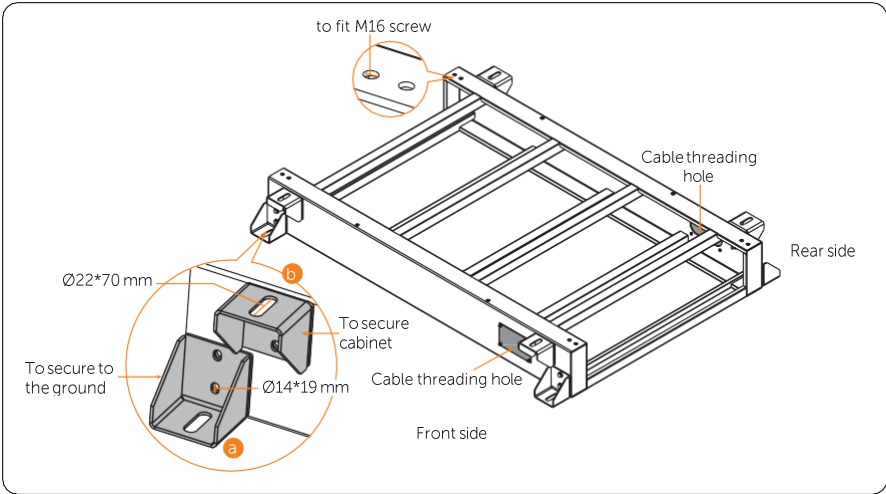
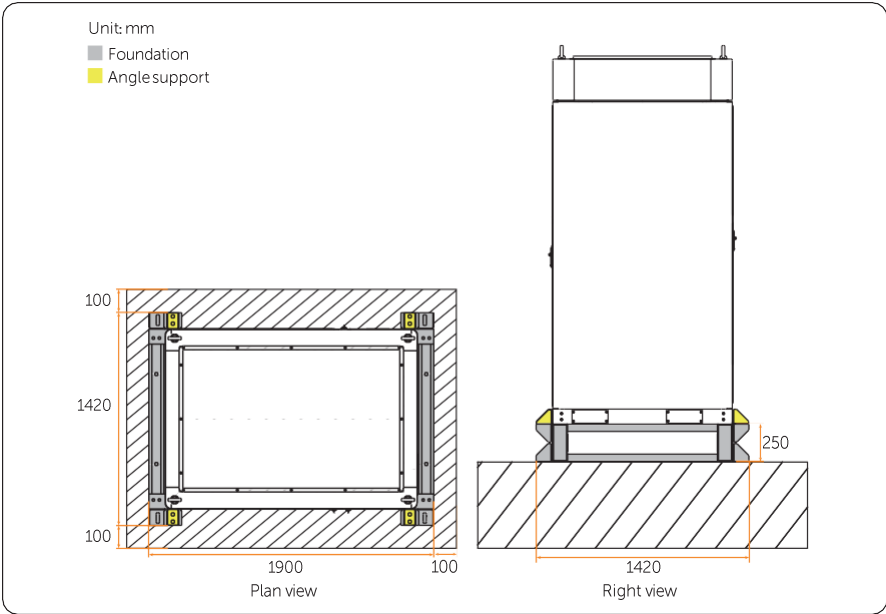

Figure 4-6 Detail description of steel foundation
Figure 4-7 Angle supports at front and rear sides
- Multiple cabinets (see Figure 4-6 and Figure 4-7)